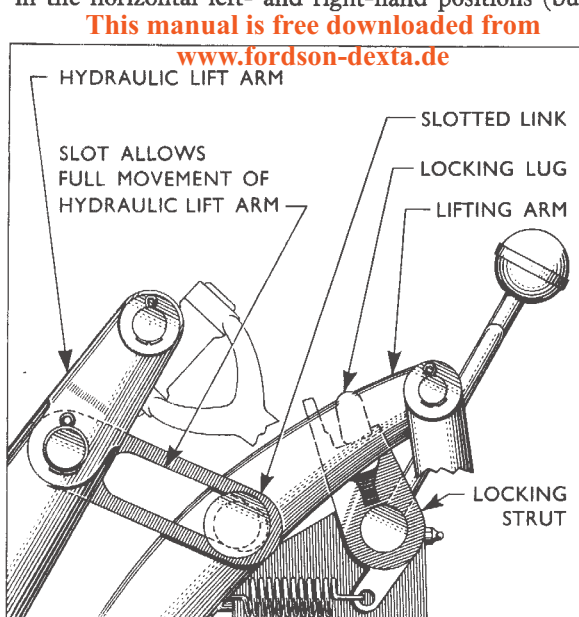
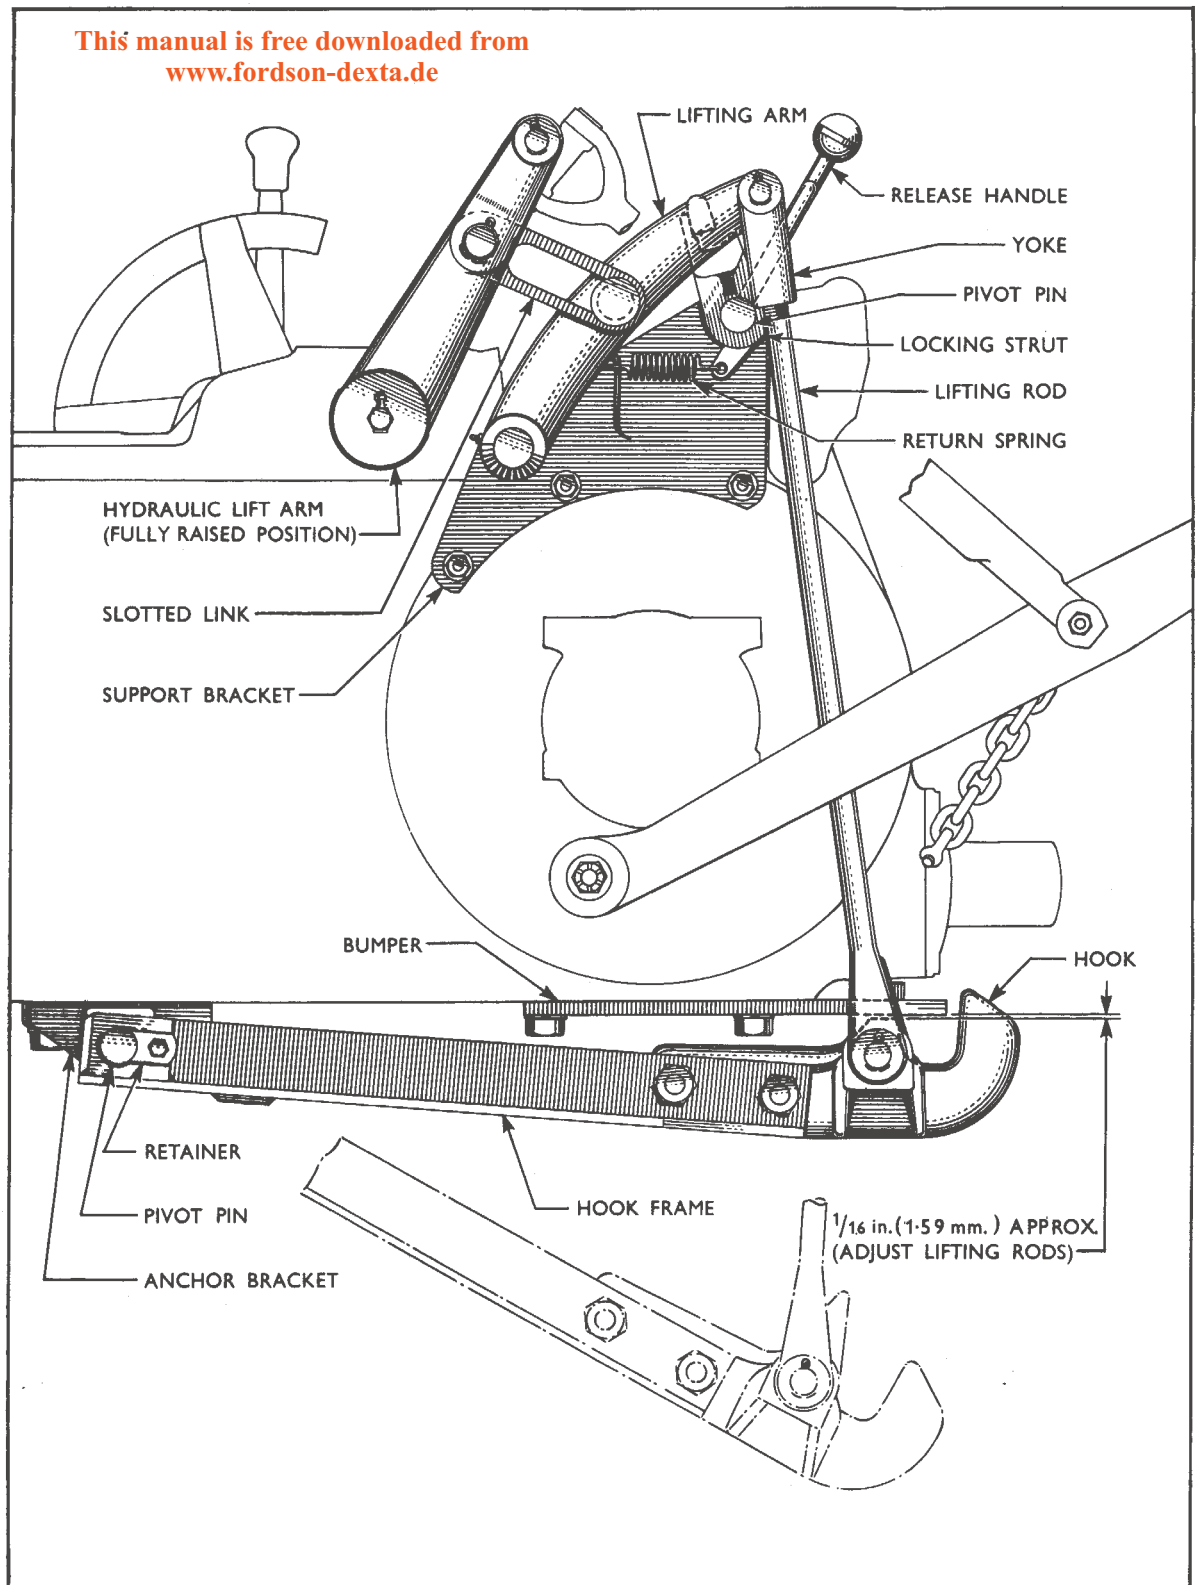
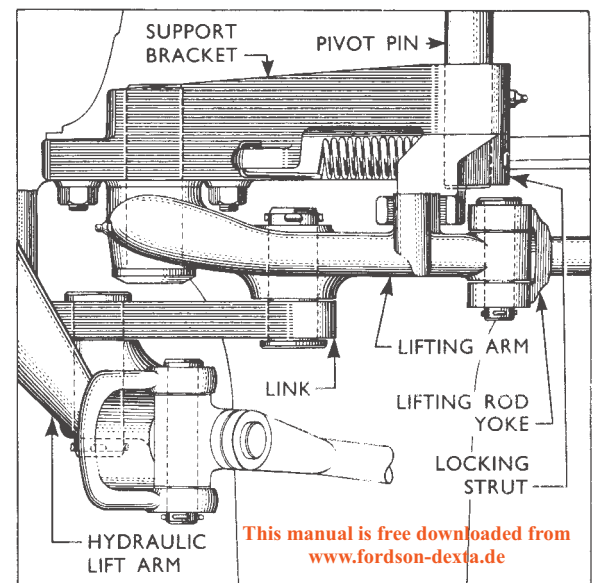

Fig. 2
Fig. 4
Fig. 5
lower ends on pins secured to the support brackets and are connected by slotted links with further pins to special hydraulic lift arms which replace the standard lift arms normally supplied with the tractor. The slotted connection of the links to the hitch lifting arms allows independent operation of the hydraulic lift and associated linkage when the hitch is not required for use (see Fig. 2).
rearward to the locking position (see Fig. 4). It is desirable that trailer loads on the hitch are supported mechanically rather than hydraulically and to achieve this end the control lever must now be moved down the quadrant sufficiently to ensure the hitch lifting arm lugs locate in the slots in the locking faces of the struts (see Fig. 2).
When the hydraulic lift arms are fully raised there must always be clearance between the lug cast in the centre of the hook body and the underside of the bumper and it is recommended that the clearance, which should be approximately $\frac{1}{16}$ in. (1.59 mm.) (see Fig. 4), be checked after extended periods of usage. If there is no clearance or if the clearance is excessive it should be corrected by adjusting the yokes on the hitch lifting rods an equal amount as required, bearing in mind that altering the position of the yokes on the rods half a turn will alter the clearance by approximately $\frac{1}{16}$ in. (1.59 mm.).
3. At each rear axle housing flange unscrew the three nuts which must be removed in order to fit each of the two hitch support brackets (see Fig. 4) then unscrew the corresponding studs from the rear transmission housing.
1. Attach a slotted link at the boss cast on the inside of each of the two special hydraulic lift arms by inserting the appropriate pivot pin through the hole in the link and through the hole provided in the lift arm so that the pin head is adjacent to the link (see Fig. 5). Secure the pivot pins with split pins ensuring that the links pivot freely on the pins.
2. Assemble the right- and left-hand hitch lifting arms to the corresponding support brackets by, in each case, positioning the large boss at the end of the arm against the machined face of the large boss of the support bracket with the locking lug of the arm adjacent to the bracket (see Fig. 5). Align the hole in the arm with the hole in the bracket, insert the appropriate pivot pin through the arm and into the bracket so that the securing pin hole in the pivot pin is in line with the securing pin hole in the support bracket. Retain the pivot pins by driving the 2 in. (50.8 mm.) long securing pins firmly into position, lightly grooved end of pin foremost. Check the hitch lifting arms for freedom of operation.
4. Install the left-hand locking strut, identifiable by the hole in the small projecting tongue, on the end of the locking strut pivot pin so that it is located on the outside of the left-hand support bracket with its cranked end away from the bracket (see Fig. 5). Align the securing pin holes in the locking strut and pivot pin so that the strut is vertically above the pivot pin when the release handle is offset from the upright position approximately 45° towards the rear of the tractor. Retain the locking strut by driving the securing pin, lightly grooved end of pin foremost, firmly into position.
10. Position each hitch lifting arm as required to enable the free ends of the slotted links to be connected to the hitch lifting arms by means of the pivot pins. Insert the pins through the slots in the links and the holes provided in the arms so that the pin heads are against the links (see Fig. 5). Secure the pivot pins with split pins.
the lift arms (see Fig. 5). Secure the clevis pins with new split pins.
12. Drive the dowel fully into the appropriate hole machined in the anchor bracket so that it protrudes from the locating face of the bracket. Position the anchor bracket against the underside of the rear transmission housing (see Fig. 4), locating the dowel in the hole provided at the front end of the housing. Align the screw holes in the bracket and housing then secure the bracket in position with the four $1\frac{5}{8}$ in. (41.3 mm.) long screws fitted with spring washers.
13. Secure the bumper, plain face downwards and angled end to the rear, to the underside of the rear transmission housing, rearward of the anchor bracket, using four screws and spring washers (see Fig. 4).
14. Position the hook assembly under the rear transmission housing, hook facing upwards, locate the end of the hook frame on the anchor bracket and retain by inserting the pivot pin through the hole in the frame and bracket so that the grooved end of the pin projects from the left-hand side of the hook frame. Fit the retainer to the pivot pin groove and secure to the hook frame with the screw and spring washer (see Fig. 4).
15. Jack or block-up the hitch hook so that there is approximately $\frac{1}{16}$ in. (1.59 mm.) clearance between the lug cast in the centre of the hook body and the underside of the bumper (see Fig. 4). Attach the hitch lifting rods to the pins located one either side of the hook body and secure each rod in position by means of a plain washer and split pin. **Ensure the hydraulic lift arms are fully raised with the pins connecting the hitch lifting arms to the slotted links contacting the lower ends of the slots (see Fig. 4).** Screw the yokes onto the hitch lifting rods so that they engage the hitch lifting arms with the holes in the yokes aligned, within the limits of the adjustment, with the holes in the hitch lifting arms—**do not alter the position of the hook.** Connect the yokes to the arms, if necessary now adjusting the position of the arms to enable the clevis pins to be installed, pin heads on the inside of the yokes (see Fig. 5). Secure the clevis pins with split pins.